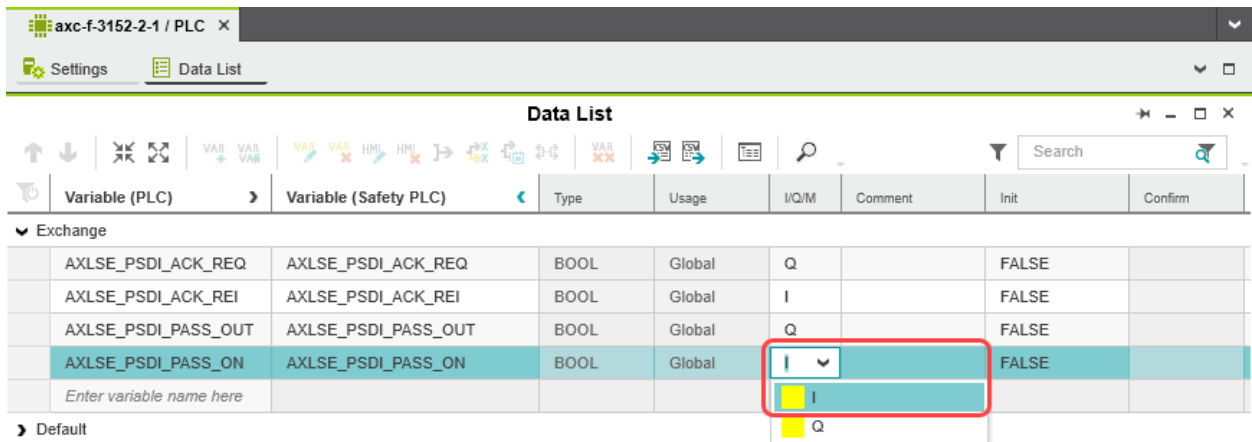

Figure 6-35 Setting the data direction
- Set the data direction in turn for each variable created earlier as shown in Figure 6-35.